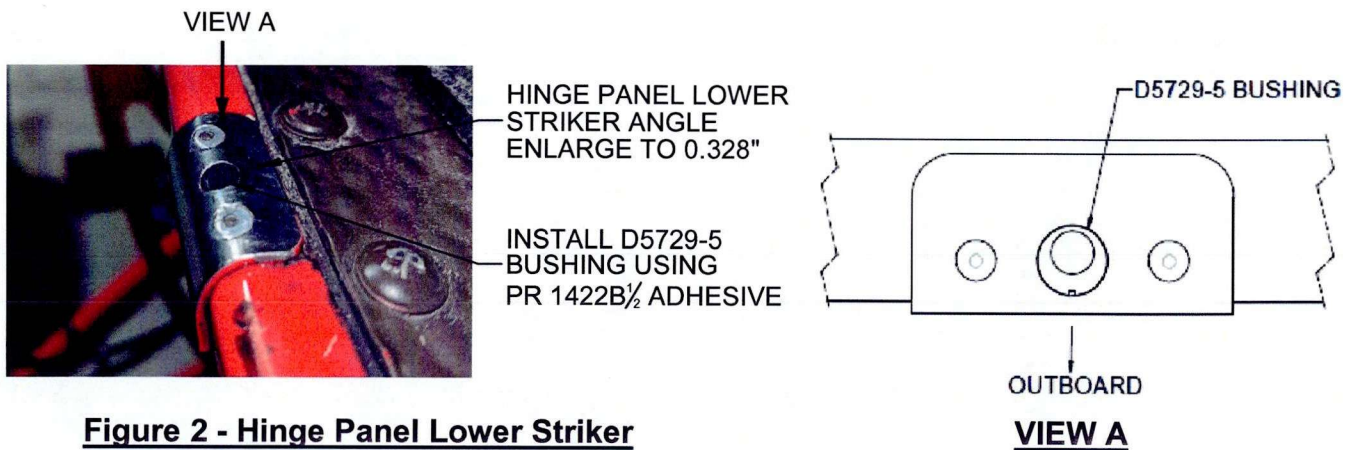

Figure 2 - Hinge Panel Lower Striker
5. Enlarge the hole in the lower striker angle to $\varnothing 0.328$ " if necessary. Dry fit the D5729-5 Bushing in the hole to confirm that it will seat in the hole so that the top face of the bushing will be flush with the top surface of the striker angle. Drill the hole depth to accommodate the D5729-5 Bushing if required. Install the D5729-5 Bushing wet with PR 1422B $\frac{1}{2}$ Adhesive in the lower striker angle with the indexing notch on the outboard side and the top face of the D5729-5 Bushing flush with the top face of the striker angle. Refer to Figure 2. Allow the PR 1422B $\frac{1}{2}$ Adhesive to cure per manufacturer's instructions.